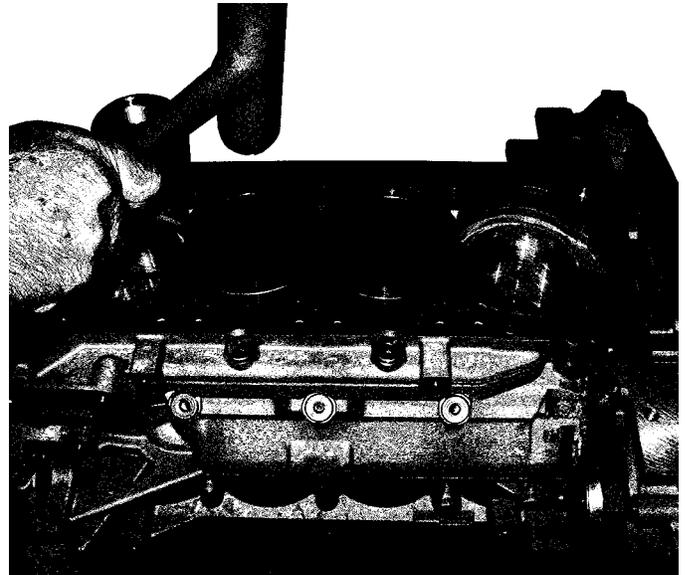

Figure 5
- The stock sleeves are machined out and new nodular iron sleeves are installed (Fig. 5). The sleeves are installed .003" proud above the block deck. The sleeves are also press fit to .003". The cylinder sleeves are finish honed with deck plates installed and torqued to 85 ft. lbs..